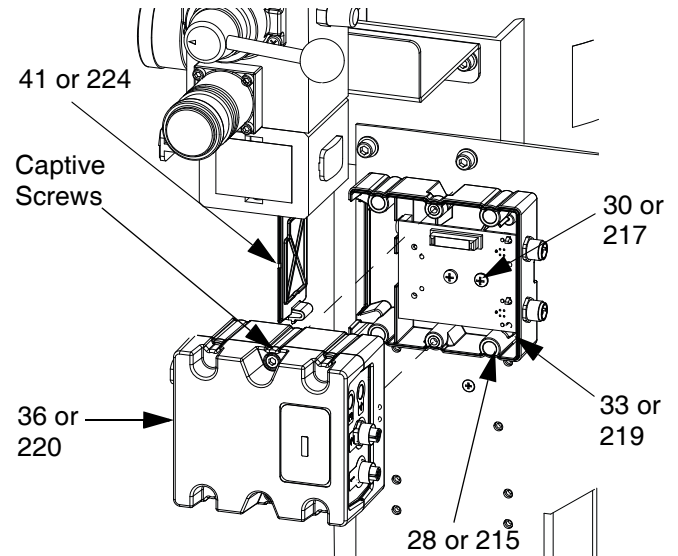

FIG. 55: Remove FCM
4. Remove screws (28 or 215) and ground screw (30 or 217) from base (33 or 219). See FIG. 55.
7. Set selector switch to "A" for Ram A or "B" for Ram B. See FIG. 55.